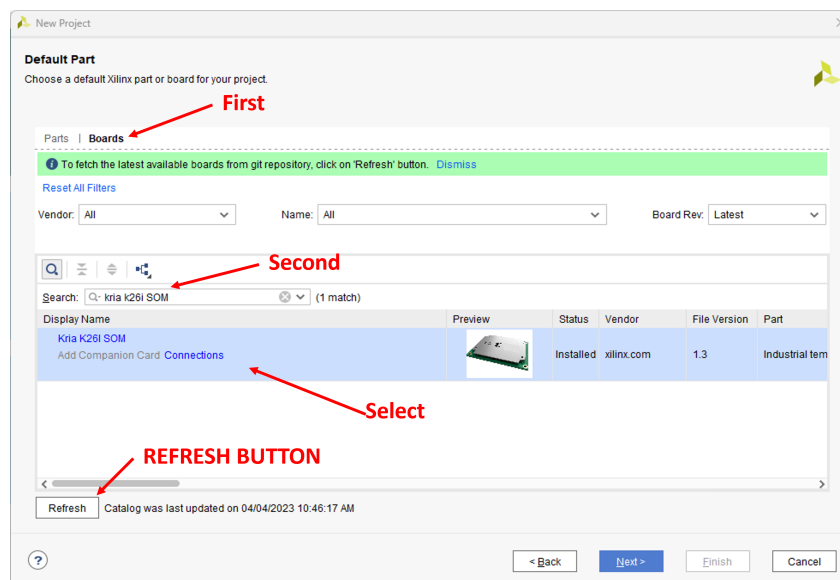

Figure 34: Vivado project part definition.
4. In the new screen, go to Boards and select "Kria k26i SOM". See figure 34.